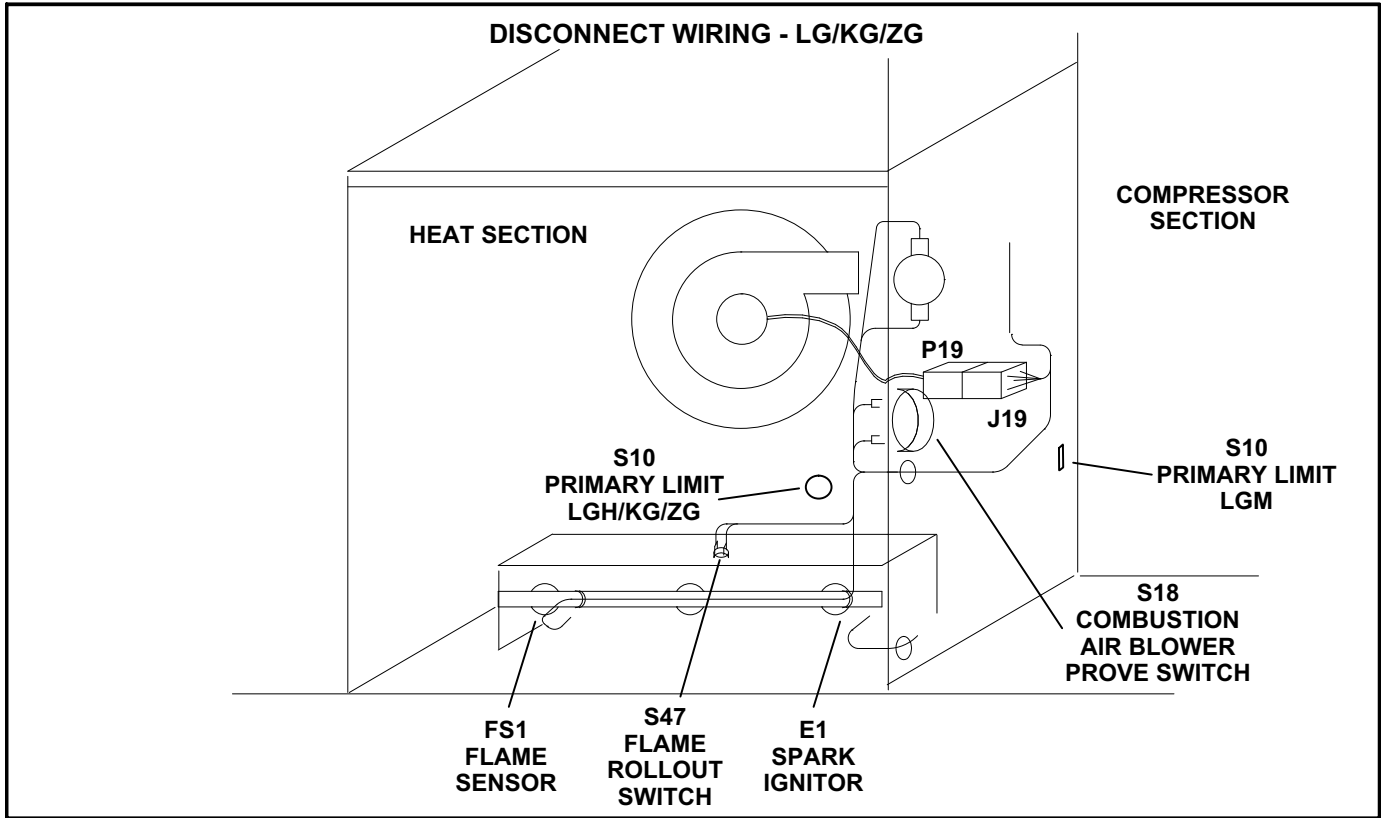

FIGURE 2
- 6- Disconnect P19 from J19. See figure 2.
- 7- Disconnect wiring to ignitor, flame sensor, combustion air blower prove switch, and flame rollout switch. On LGH/KG/ZG units, disconnect wiring to the primary limit. See figure 2. On LGM150 units, remove the primary limit.
- 8- Remove the two screws securing the combustion air blower prove switch. Discard the switch if tabs are broken. Retain the switch for reassembly if tabs are intact. See figure 2.
- 13- Remove J19 from the division panel between the heat and compressor sections. See figure 2.